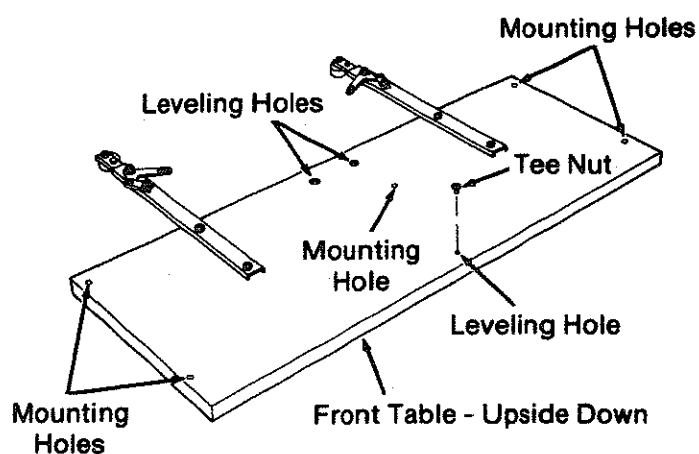

Fig. 79 - Leveling and Mounting Holes
1. Place a *tee nut* over each of the *leveling holes* and hammer them into place. (Figure 79)